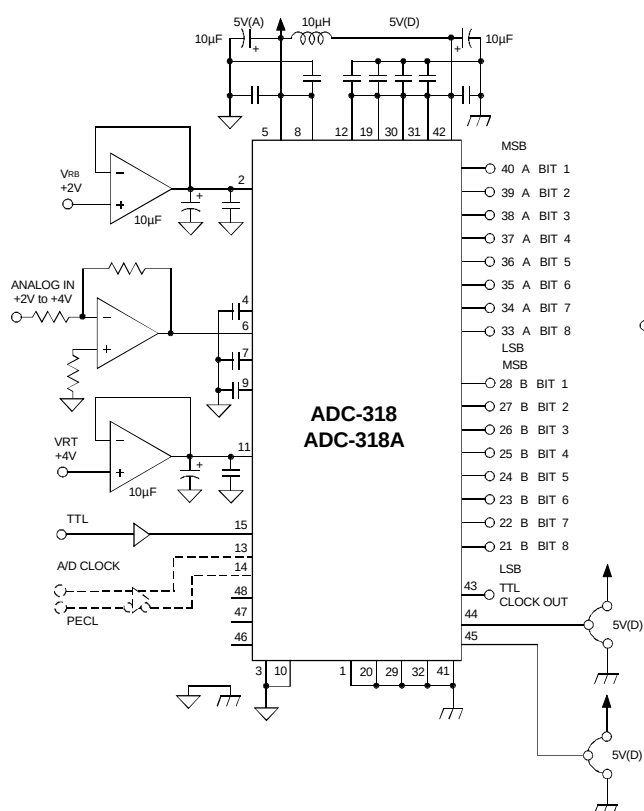

Figure 2-1: One Power Supply Operation (TTL, PECL)
6. A/D CLK input and $\overline{\text{RSET}}$ /RSET inputs are TTL or ECL, PECL (Positive ECL) compatible. Pins are provided individually. TTL or PECL is available with +5V single power applied. ECL is available with $\pm 5\text{V}$ dual power applied. The connections of -DVs (pin 1) and DGND3 (pin 12) are different depending on the power supply mode used. Refer to Figures 2-1 and 2-2.